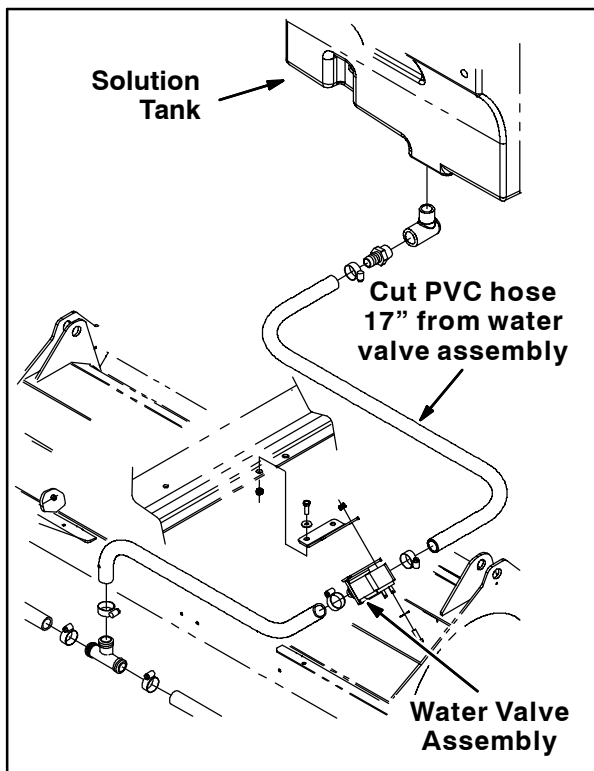

FIG. 2
3. Cut the existing 48" PVC hose 17" from the water valve assembly shown in Fig. 2.